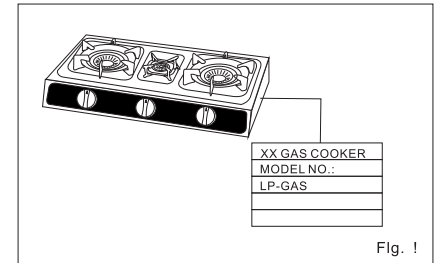

Fig. 1
- Do not use a gas other than that which is specified on the label attached (Fig. 1).